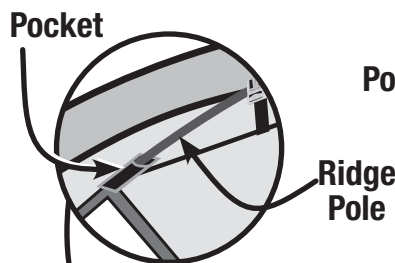

Fig. 7
- Insert the tips of ridge pole into pockets. (Fig. 7)
- Detach the ridge pole from pockets. (Fig. 7)